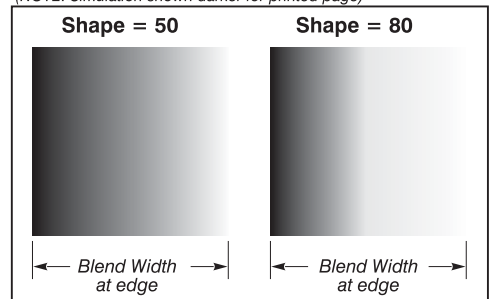

Figure 3.35. “Shape” Examples
- ❑ **Blend Shape** determines the rate of roll-off across the blend width, i.e. how quickly the white levels across the blend change from light and dark. Increasing the *Blend Shape* setting accelerates the rate of change at both extremes so that *less* of the region appears mid-gray (see Figure 3.35). Decreasing the *Blend Shape* setting slows the rate of change so that *more* of the region appears mid-gray. For most applications, this subtle control is best left close to 50.